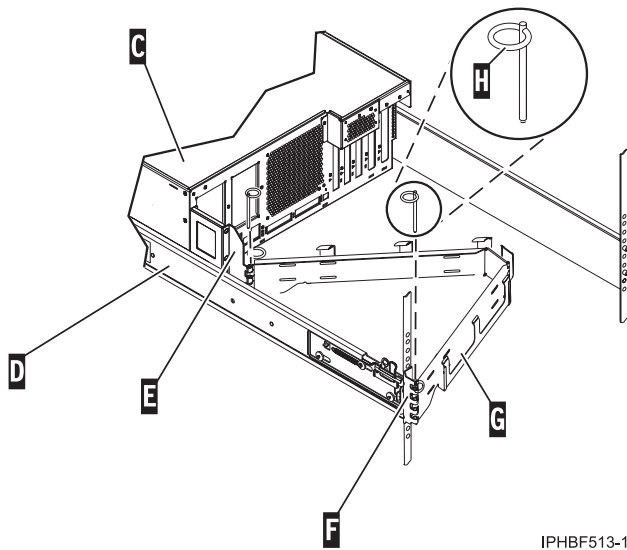

Figure 133. Attaching the cable-management arm.
2. Use pin **H** to pin the cable-management arm **G** to the rack frame **F** as shown in Figure 133 on page 131.
3. Use the second pin **H** to pin the other end of the cable-management arm to the flange **E** attached to the sliding portion of the left system rail assembly **D** as shown in Figure 133.